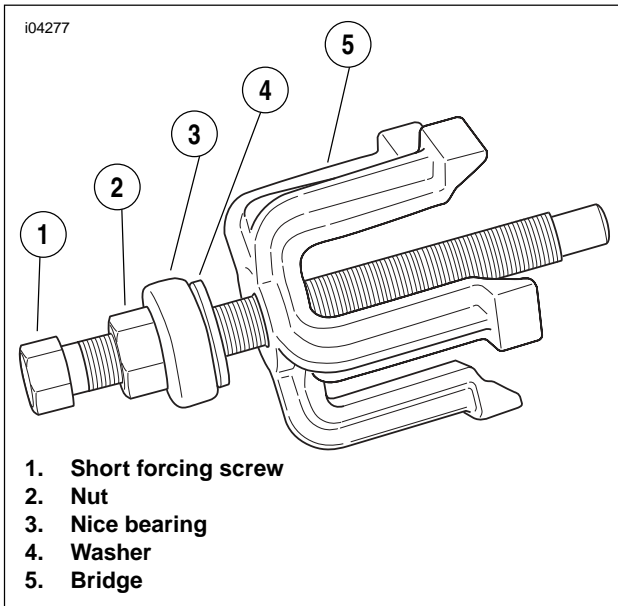

Figure 2-7. Assemble Puller
1. See Figure 2-7. Remove wheel bearings using BUSHING AND BEARING PULLER (Part No. B43993-7) and WHEEL BEARING REMOVER AND INSTALLER (Part No. HD-44060).
2. Sparingly apply Extreme Pressure Lubricant (J-23444-A) to the threads of the short forcing screw (1) to prolong service life and ensure smooth operation.